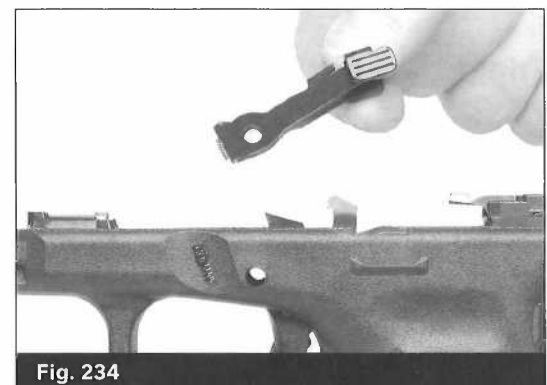

Fig. 234
- Lift the slide stop lever out of the frame. (Fig. 234)